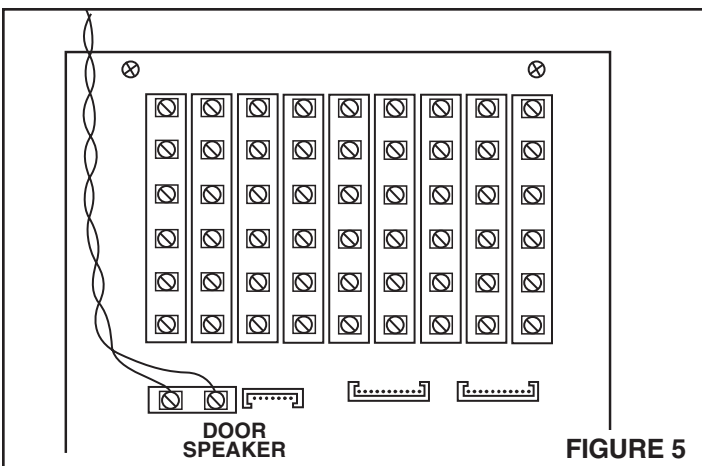

FIGURE 5
1. Refer to Figure 5. Connect the two wires from the Door Speaker(s) to the 2 screw terminals marked **DOOR SPEAKER** on the master station terminal board.